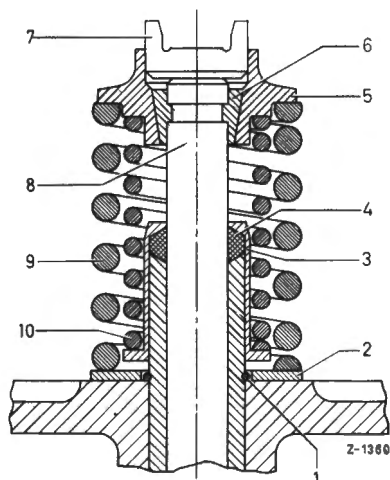

Fig. 05-2/1
In the case of the exhaust valve (8), a sealing-ring retainer (3) in the form of a bell covering the valve guide is soldered to the valve spring retainer (5). The rubber sealing ring (4) is installed in the sealing-ring retainer from below (Fig. 05-2/2).